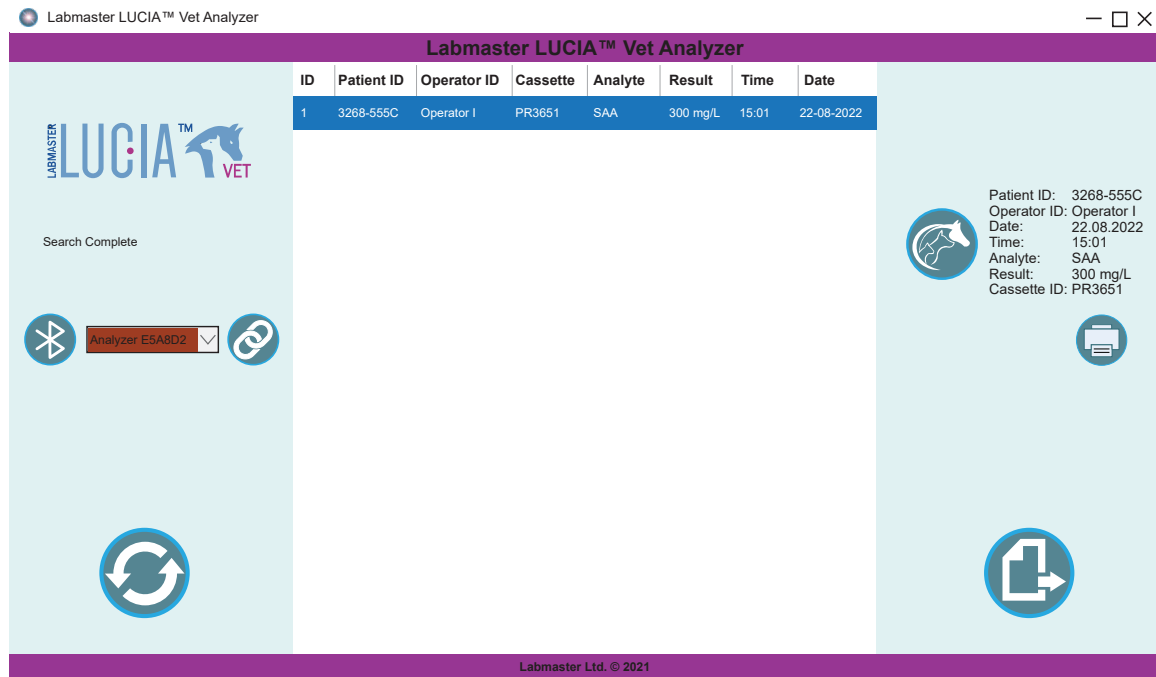

Figure 27. Labmaster LUCIA™ Vet Analyzer Windows Application Home screen
- The application starts with Home screen as shown in Figure 27.